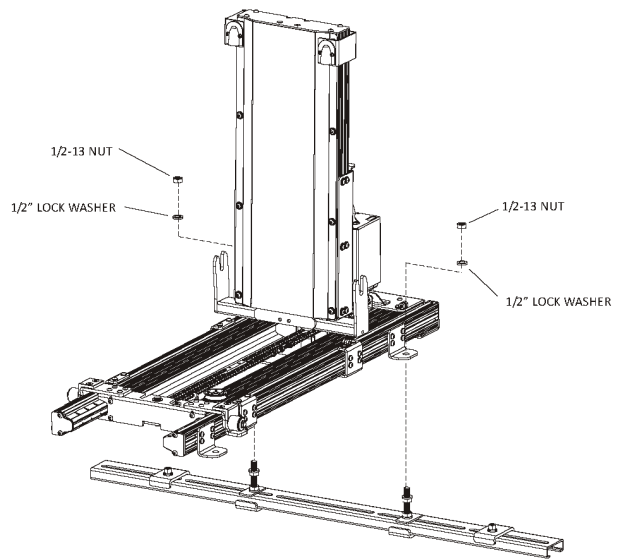

Figure 4-16
7. With the help of an assistant, place the lift onto the bolts through the L-shaped mounting brackets on the lift. Place 1/2" lock washers onto the bolts and thread the 1/2-13 nuts over the washers. Only finger tighten each nut at this time until the front mounting is complete and the height of the lift is properly adjusted. **See Figures 4-16 through 4-18.**